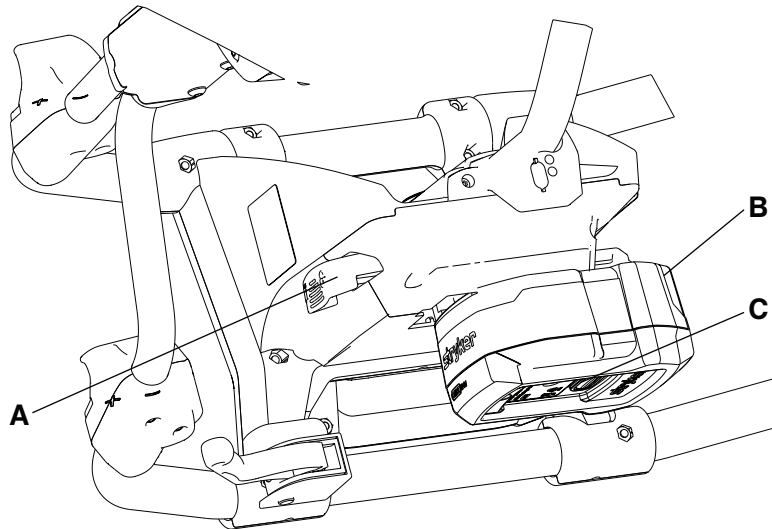

Figure 49 – Releasing the battery
1. Press the red one hand release button (C) or press the battery release button (A) to release the **SMRT Pak** (B) from the cot (Figure 49).